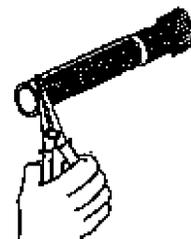

Fig. 3d
- m) Using a pair of long nose pliers remove the semi conducting layer from between the  $\pm$ ram lines  $\pm$  Starting at cable end, rotate the pliers to remove the tape in a progressive and controlled manner until the annular groove is reached. See fig. 3d.